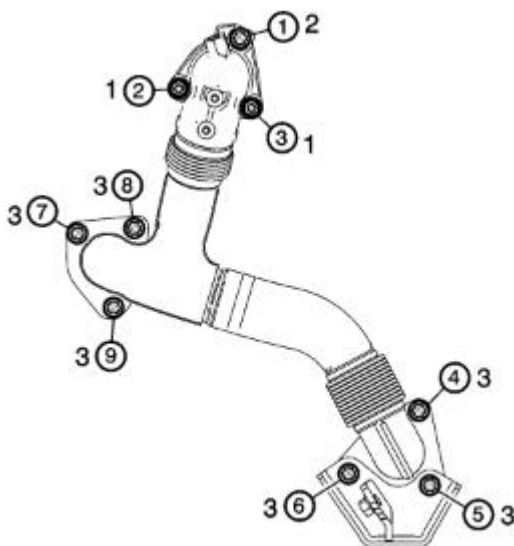

Fig. 19: Passenger side up-pipe fasteners
- c) Remove the exhaust pipe nuts (1) and bolts (2 and 3) in the sequence shown in figure 19. Remove the passenger side exhaust up-pipe, bracket, and gaskets.